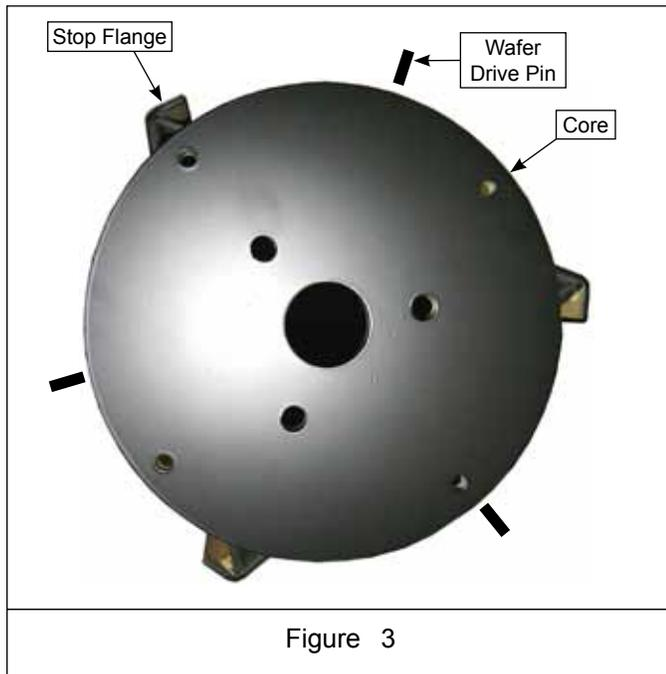

Figure 3
- a. Note the location of the drive pin on the inside ring of each brush wafer. Position each wafer so its drive pin is positioned between the stop flanges. Rotate each subsequent wafer before installing so the position of its pin is staggered on the core by one stop flange. See Figure 3.